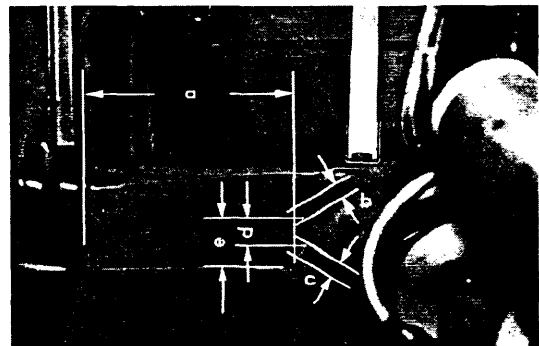

Fig. 1
- 2 - Mark off and drill holes for the fuel line (10 mm) and the cable (14 mm) in the partition below the tank support, using the measurements in Fig. 1.